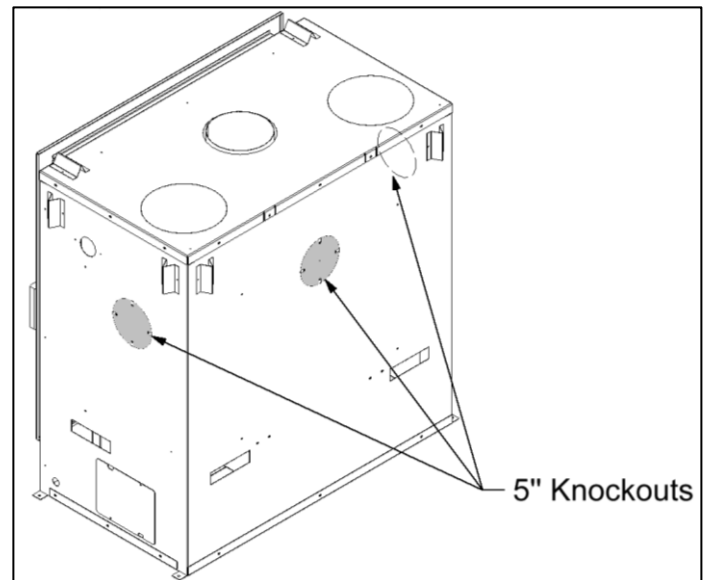

Figure 4-2: Front Cover Installation for Traditional Face
1. Remove the 5" knockout on the exterior casing of the fireplace using a flat head screwdriver (Figure 4-2).